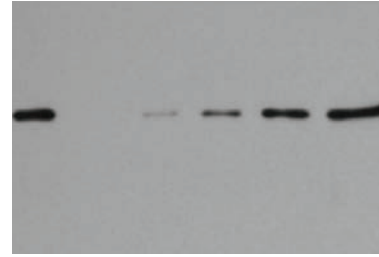

Figure 1.7. A chemiluminescent Western blot detected on x-ray film.
Chemiluminescence is a popular indirect detection method for Western blotting that relies on an enzyme-substrate reaction that emits light (Figure 1.6). Horseradish peroxidase (HRP) and alkaline phosphatase (AP) are two commonly used chemiluminescent enzymes, with the sensitivity of detection dependent on the choice of substrate—commercially available substrates for HRP can detect proteins in the femtogram range. Imaging of a chemiluminescent Western blot is historically done via exposure of the blot to x-ray film (Figure 1.7) and can also be done using a CCD-based imaging system.